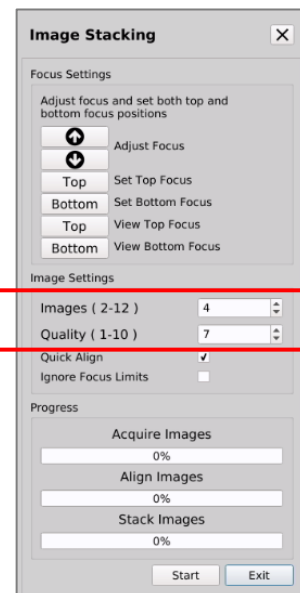

Fig. 22
- 6. For better image quality you can increase the number of images taken in the stack and/or you can increase the quality (Fig.22). Doing so will increase the time taken to process the image stack and will also increase the file size of the image.